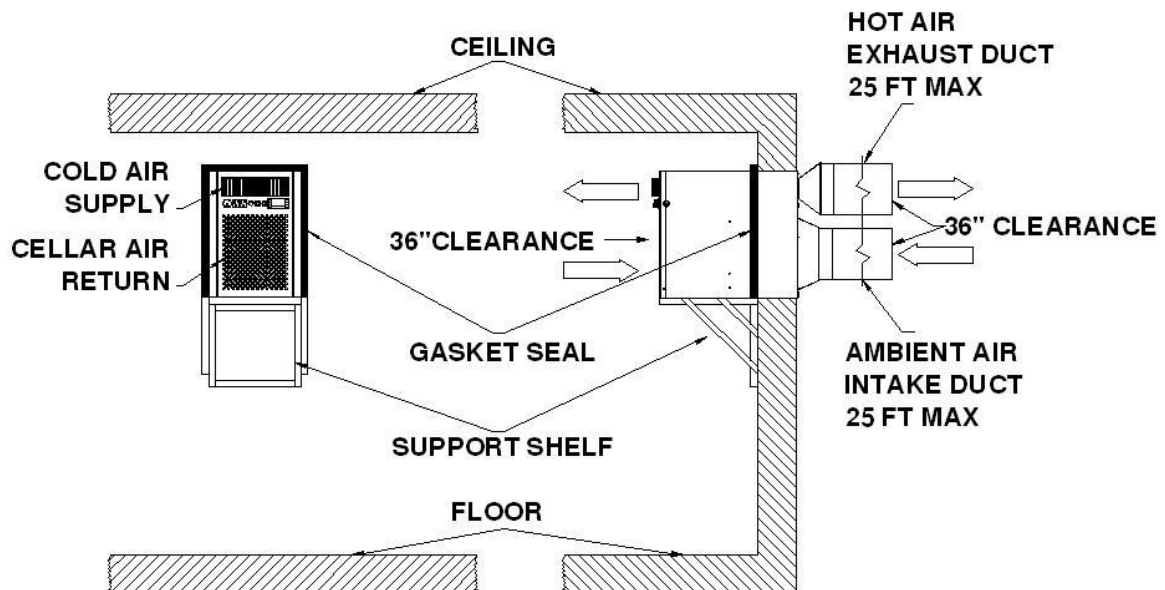

Fig. 4.4 Flush to the outside of wall with hot-air exhaust & ambient-air intake ducts
3. WM-4510 through-wall with hot-air exhaust and ambient-air intake ducts (Fig. 4.4 & 4.5)